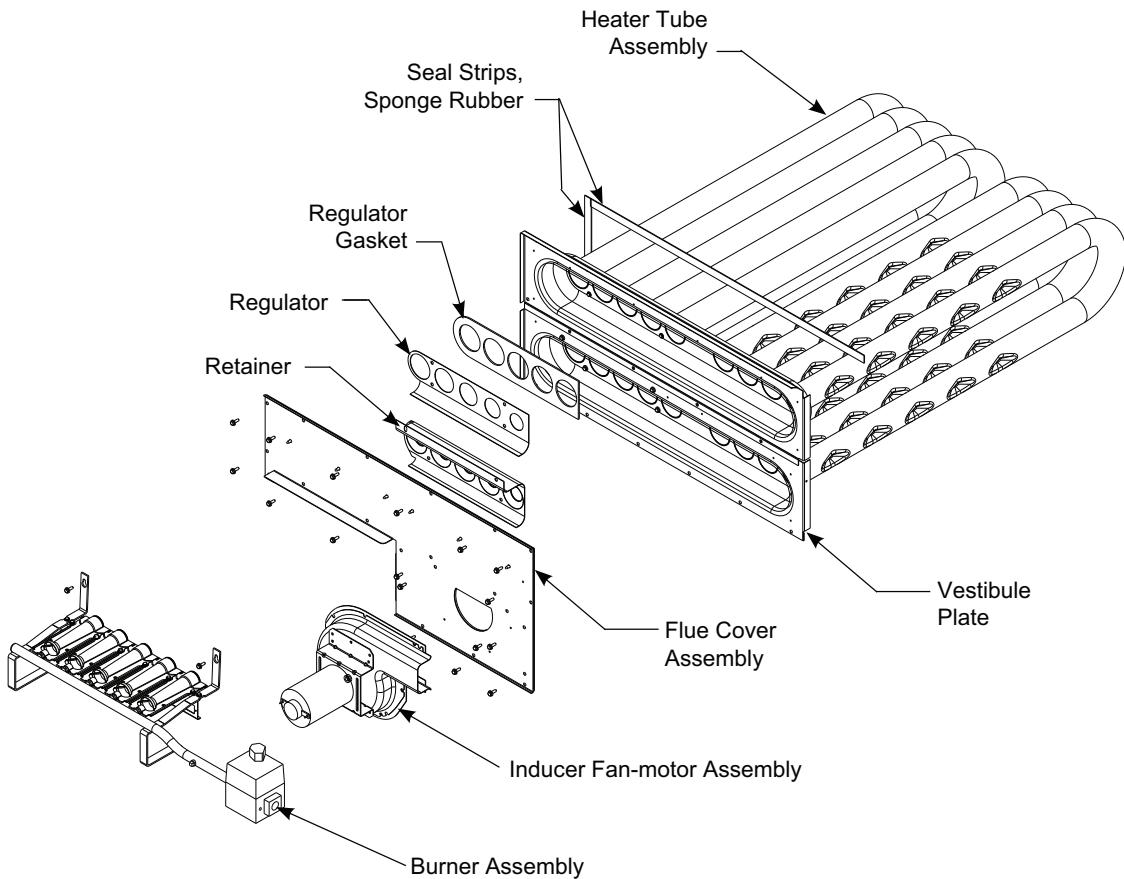

Fig. 56 — Heat Exchanger Assembly
9. Remove the two screws attaching the burner rack to the vestibule plate (see Fig. 56).
10. Remove the pressure switch hose from the connection on the flue cover assembly (see Fig. 56).
14. Separate the following from the heat exchanger: inducer fan-motor assembly, flue cover assembly, retainer, regulator, and regulator gasket. See Fig. 56.